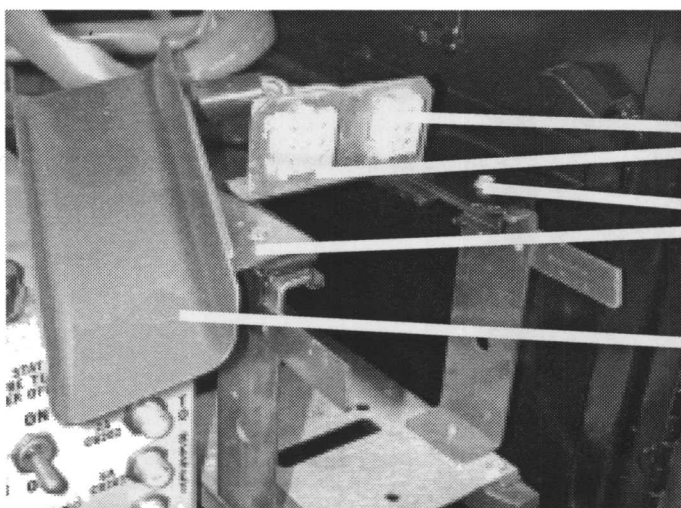

Figure 1
- E. Unscrew the 2 screws holding the stacker assembly (see figure 1). Remove the stacker assembly by sliding out along the rails and unplugging the 8 pin plug from the rear. This also removes the coin chute at this point.